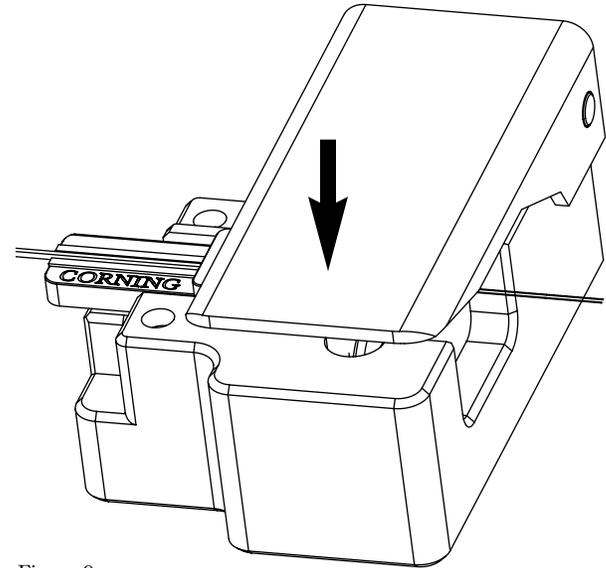

Figure 9
**5.9** While gently holding the handler in position, with the coating butted against the elastomeric pad, slowly press the cleaver's handle down as far as it will go (Figure 9).